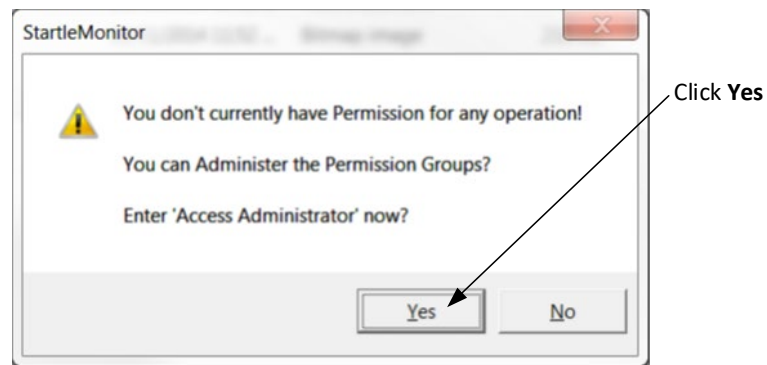

Figure 21 Access Administrator Window II
7. The following screen (Figure 21) will appear: